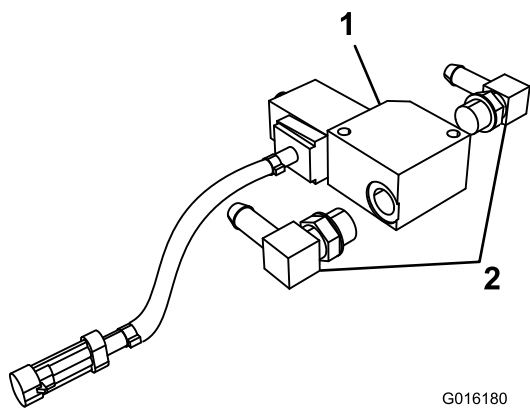

Figure 4
14. Install 2 hydraulic fittings (90-degree) onto the front and back of the solenoid valve (Figure 4).